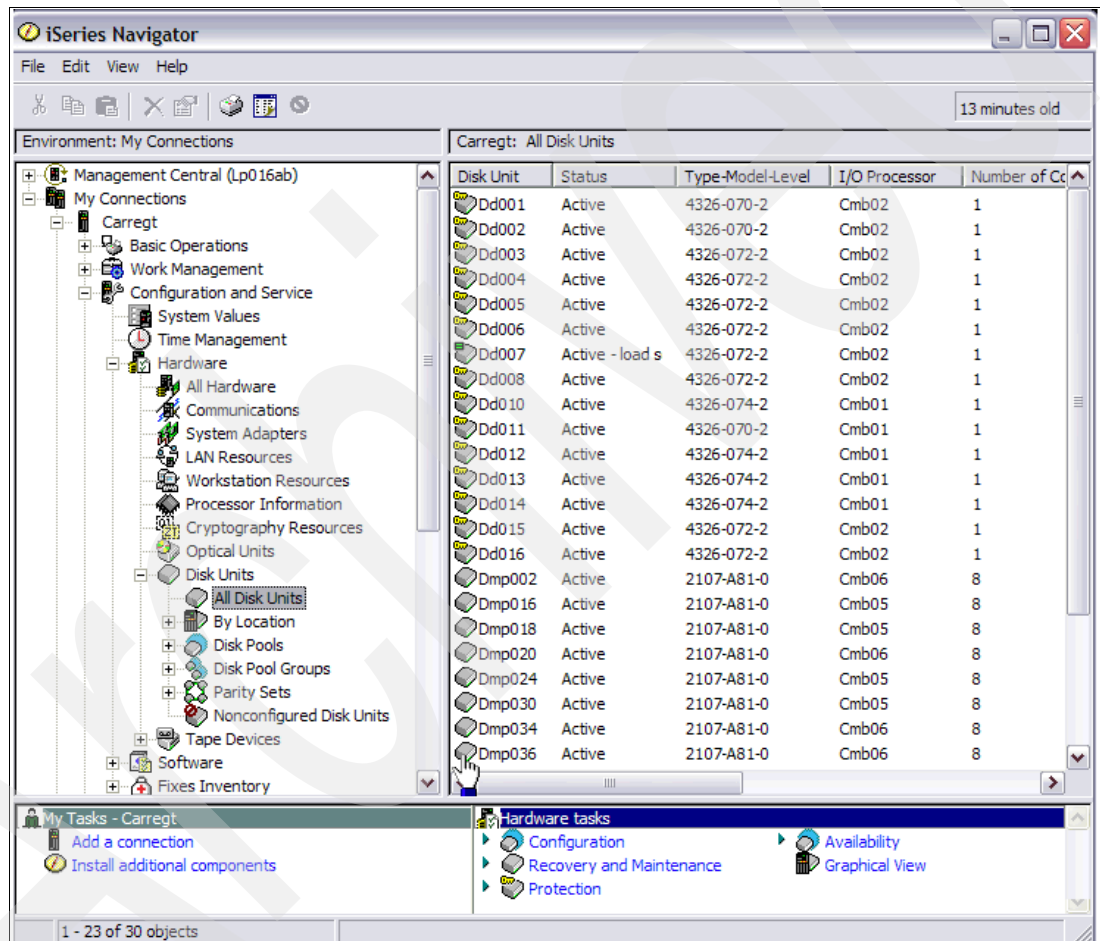

Figure 5-42 Example of multipath logical units
1. To see the number of paths available for a logical unit, open iSeries Navigator and expand **Configuration and Service** → **Hardware** → **Disk Units**. As shown in Figure 5-42, the number of paths for each unit is in the *Number of Connections* column (far right side of the panel). In this example, there are eight connections for each of the multipath units.